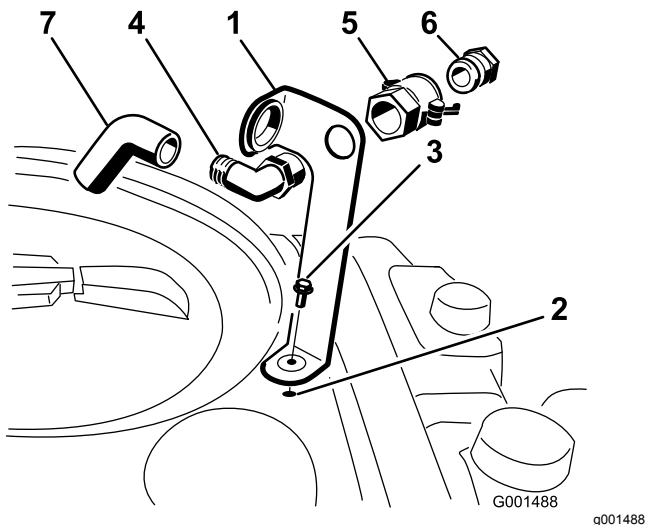

Figure 3
- Place the fill-receptacle bracket over the threaded hole in the tank and secure it with a flange-head bolt (5/16 x 3/4 inch) as shown in Figure 3.
- Place the threaded end of the 90° elbow fitting through the bracket and thread the quick coupler onto it, securing it to the bracket (Figure 3).
- Install the hose adapter into the quick coupler (Figure 3).
- Lock the adapter into place by swinging the levers toward the adapter and then secure them with the hairpin cotters (Figure 3).
- Install the anti-siphon hose through the large opening on the bracket and onto the barbed end of the 90° elbow fitting (Figure 3).